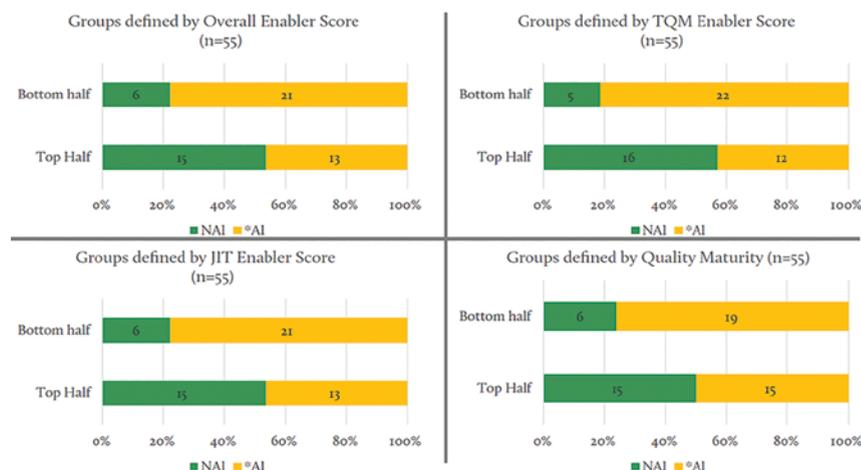

Figure 1: Site's Inspection Outcomes by Maturity Implementation Level (Friedli et al, 2019)
A site's Operational excellence (OPEX) maturity is an umbrella term that summarises all initiatives driving continuous improvement along the manufacturing chain (Friedli & Bellm, 2013). OPEX initiatives have been started in the pharma industry for several reasons, one of them is to directly improve process and product quality. The implementation of lean concepts provides advantages in terms of operational performance and enables plants to achieve better results in quality if implemented correctly. In the final report after supporting the Quality Metrics Initiative for three years, Friedli et al., (2019) analysed the relationship between OPEX practices (defined as Overall Enabler, Total Quality Management Enabler, Just-In-Time Enabler, and Quality Maturity) and compliance status of pharmaceutical production facilities. The results are displayed in Figure 1, inspection outcomes are clustered in two categories: No Actions Indicated (NAI) and Actions Indicated (AI) comprising of voluntary and official actions indicated. Within all four diagrams, sites showing a maturity level below the median in the respective category reveal a higher amount of AI results compared to the sites above the median. The implementation of higher
maturity in all categories provides confidence for a statistically significant relation with NAI inspection outcomes. (Figure 1)